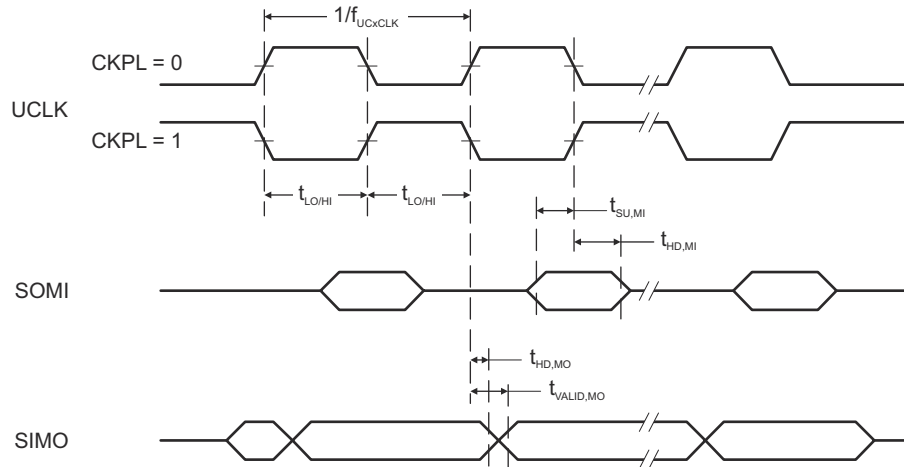
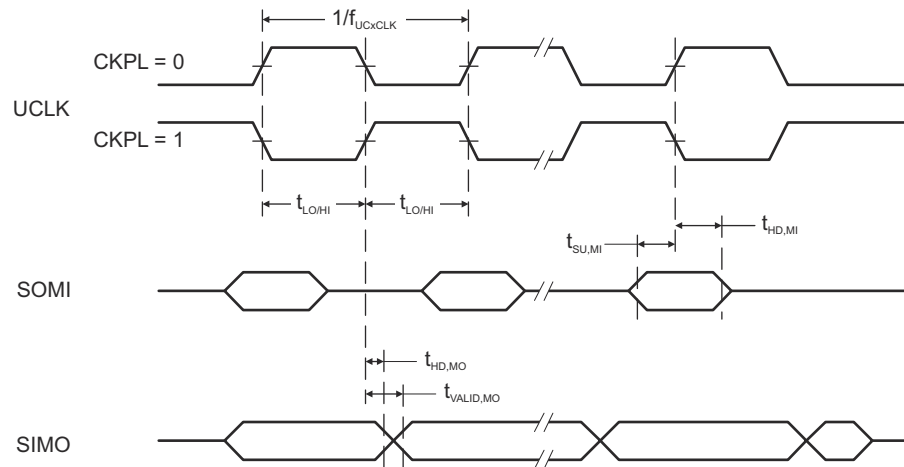

Figure 8-11. SPI Master Mode, CKPH = 0
Figure 8-12. SPI Master Mode, CKPH = 1
(see Figure 8-11 and Figure 8-12)
(2) Specifies the time to drive the next valid data to the SIMO output after the output changing UCLK clock edge. See the timing diagrams in Figure 8-11 and Figure 8-12.
(3) Specifies how long data on the SIMO output is valid after the output changing UCLK clock edge. Negative values indicate that the data on the SIMO output can become invalid before the output changing clock edge observed on UCLK. See the timing diagrams in Figure 8-11 and Figure 8-12.